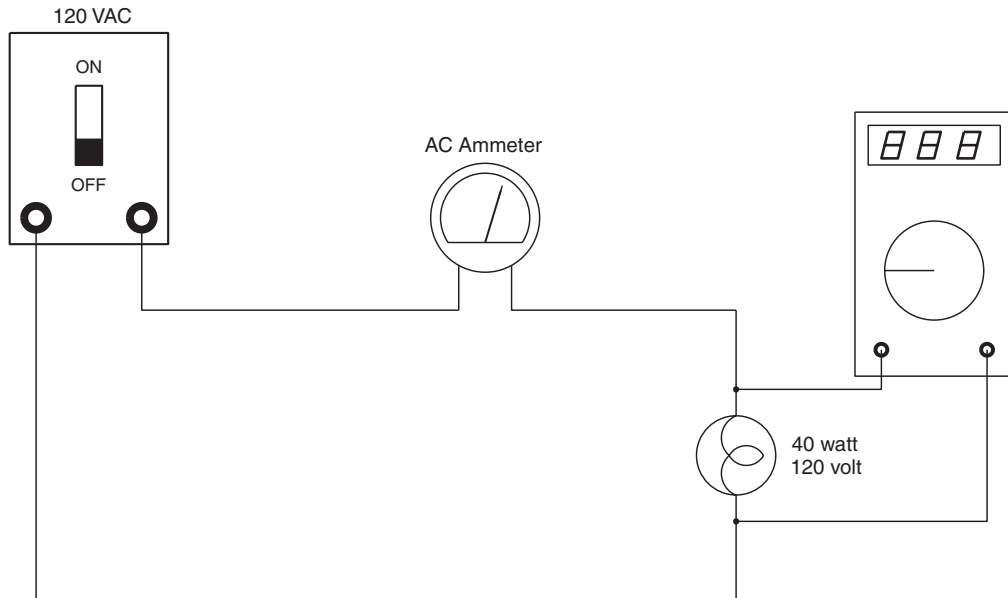

Figure 2-4 Measuring the voltage drop across the lamp.
- Connect the AC voltmeter across the 40 watt lamp as shown in Figure 2-4. Is the voltage the same as that measured at the power supply?